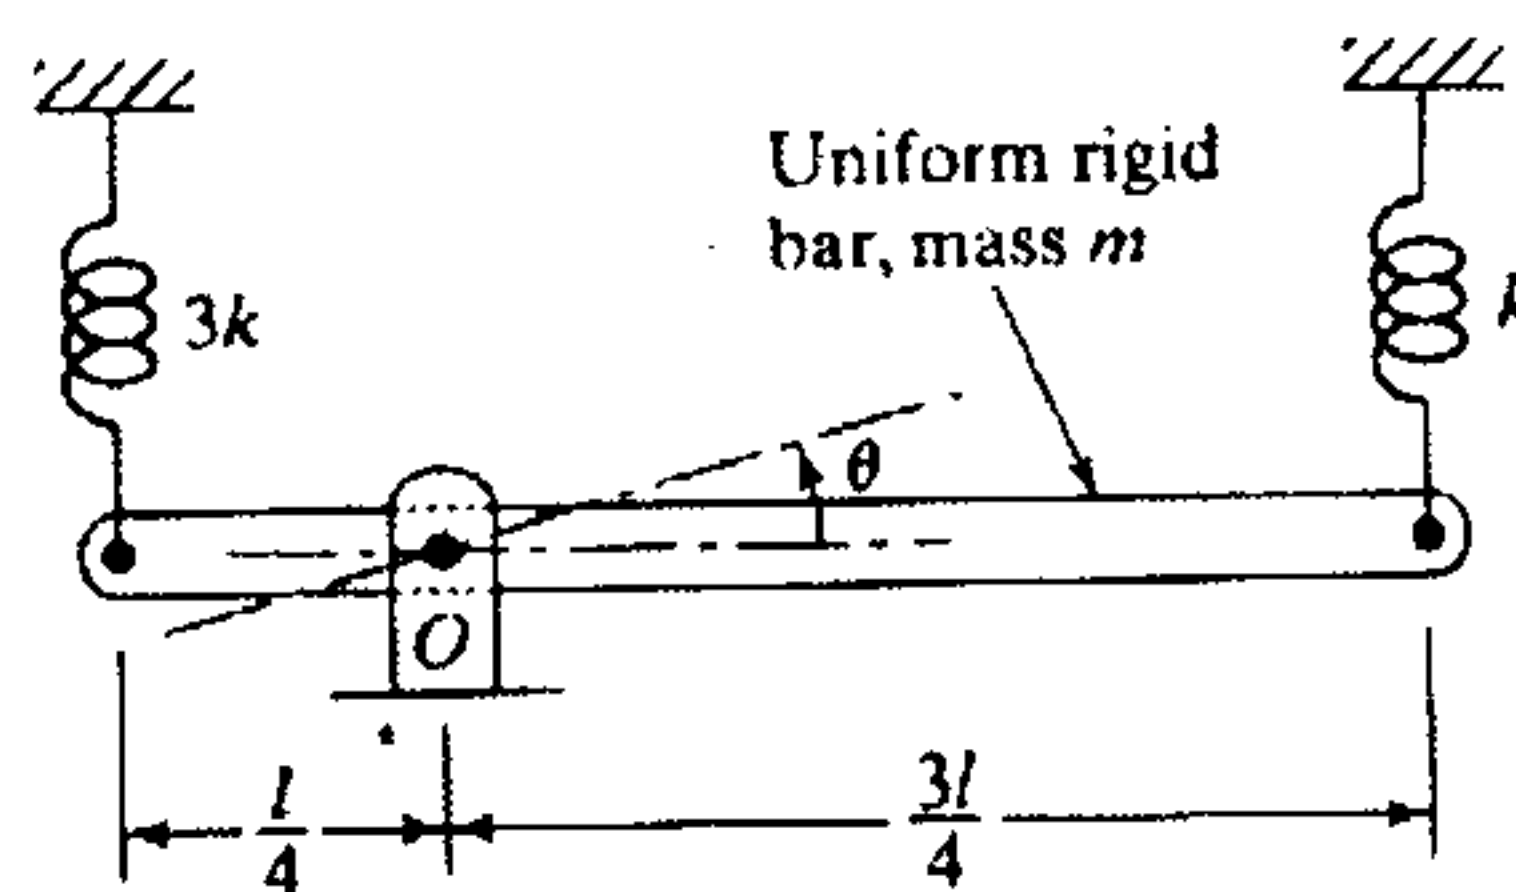

Fig 1
- 1) a) Derive the equation of motion of the system shown in figure 1, using the following methods i) Newton's second law of motion ii) D'Alembert's principle and iii) Principle of virtual work